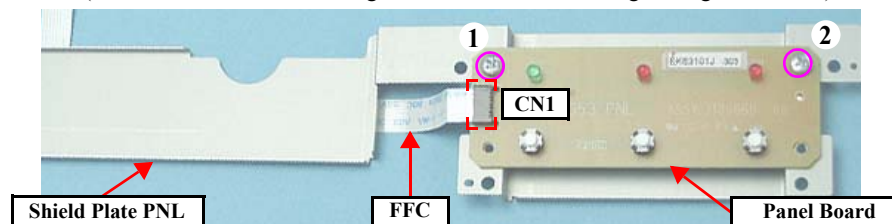

Figure 4-75. Removing the Panel Board (R260/R265/R270)
- For the R260/R265/R270, screw the Panel Board in the order given in Fig.4-75.